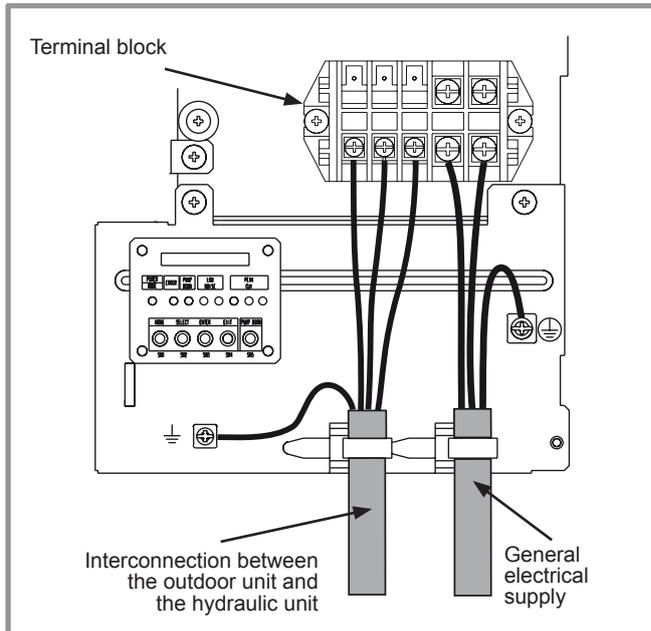
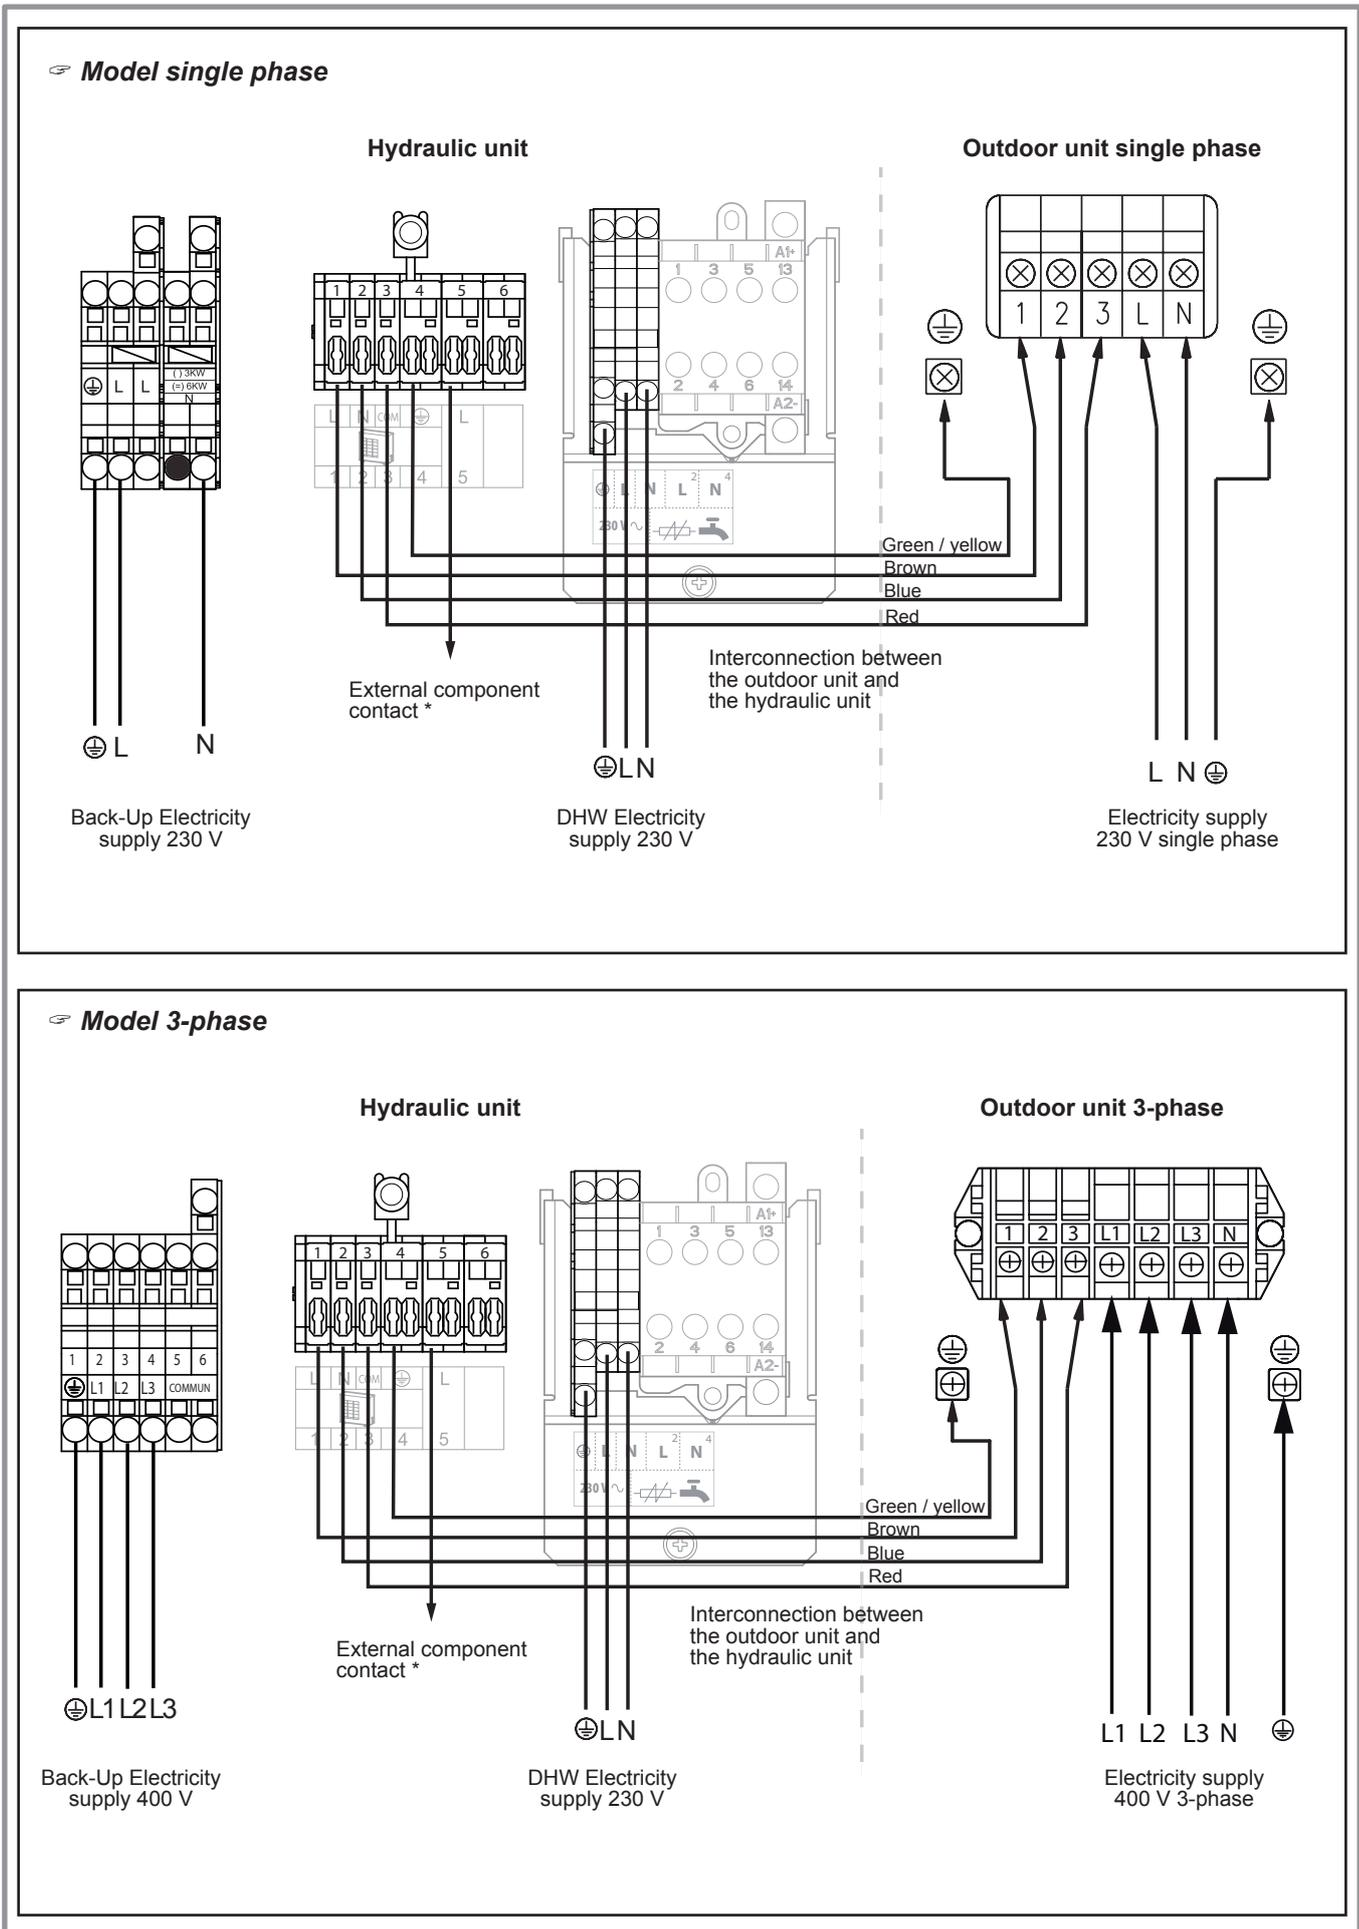

figure 32 - Connections to single phase outdoor unit's terminal block
figure 41 - Connection to terminal block and power relays
- Make the connections in accordance with the diagram figure 32 and figure 41, page 33.
- Make the connections in accordance with the diagram (figure 41, page 33).